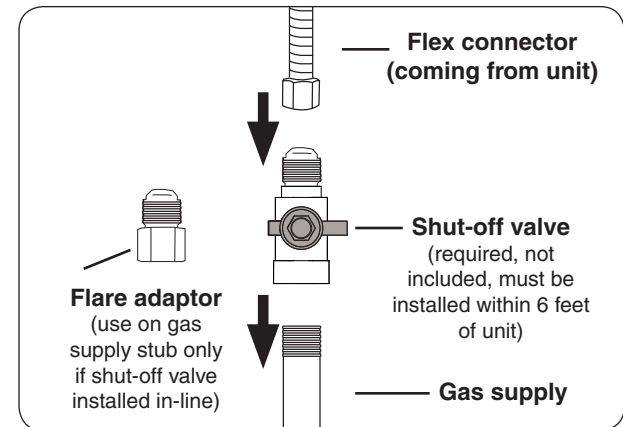

Fig. 16-3 Connecting to a gas line
- Connect the flex connector to the shut-off valve (see Fig. 16-3). Tighten securely.
- Install the supplied flare adaptor to the gas supply using a pipe joint compound resistant to all gasses (see Fig. 16-3). Tighten securely.
- Connect the flex connector to the flare adaptor (see Fig. 16-3). Tighten securely.